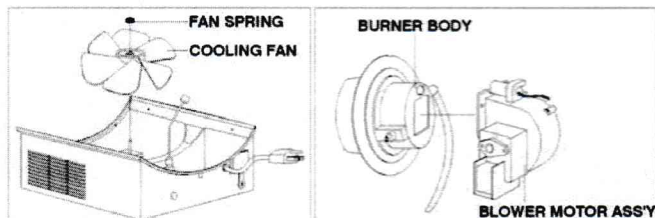

Figure 7. Fan Maintenance
- Remove all accumulated dust and dirt with a burst of condensed air (Figure 7).